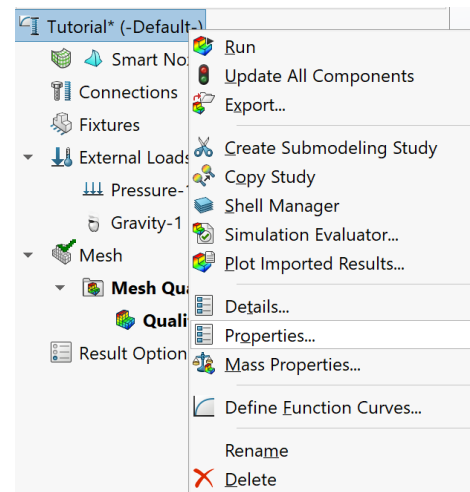

Figure 14: Study Properties
- A. After the mesh has successfully been created, the study can be run but it may have some errors in solving problems and can alter the results or cause the study to fail. To optimize a few settings of the nonlinear study to prevent some of these issues, right click on the study name in the part menu (Figure 14). Once in the menu, on the first page, alter the settings to match that of Figure 15. Once complete, click on advanced settings in the original study properties menu and make the corresponding changes from Figure 16.